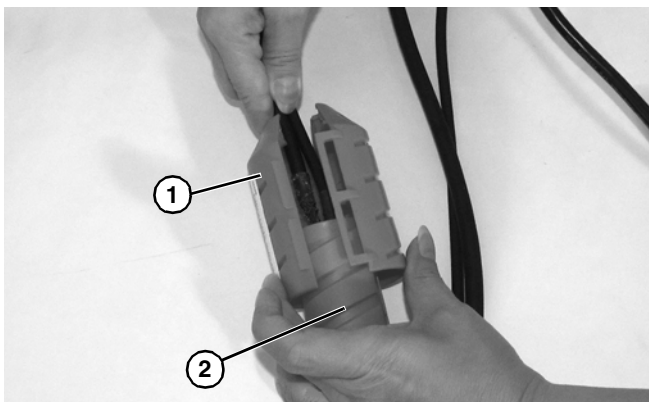

Figure 22
2. Remove outer cord cover (**Figure 22, item 1**) from inner cord cover (**Figure 22, item 2**).